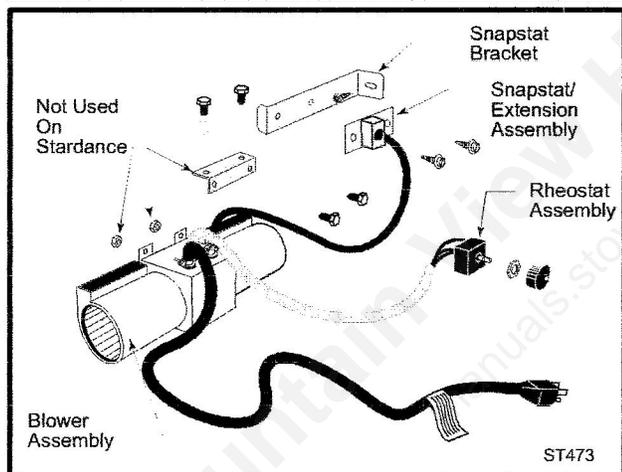

Fig. 19 Fan kit components.
1. The fan kit includes a Blower Assembly and a Rheostat Assembly, connected by a cable. (Fig. 19) The Blower Assembly mounts to the bottom rear of the stove, and the Rheostat mounts to the valve coverplate. The assembly includes a 'snapstat' which automatically turns the fan On (or Off) above (or below) approximately 109°. The Rheostat also provides a range of fan speed settings from Off (which overrides the snapstat function) to High. Unpack and inspect the Blower assembly. Confirm that the fan spins freely.